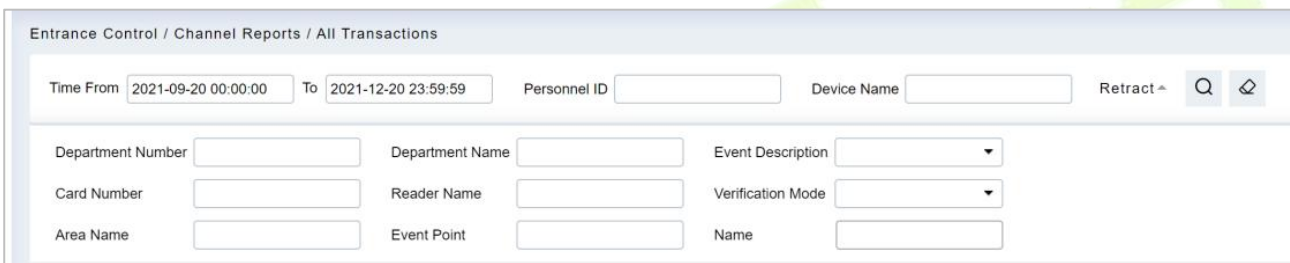

Figure 12-44 All Transactions
Step 2: In the All Records interface, fill in the corresponding query information and click the **Query** symbol to complete the query of all record tables, as shown in Figure 12-44.